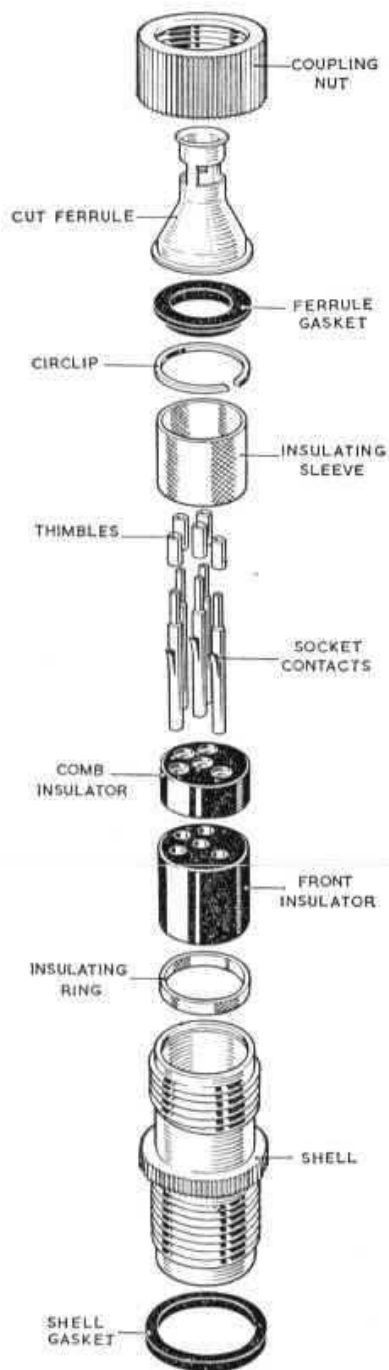

Fig. 6. Free unit (exploded) with coupling nut and cut ferrule, climatic-proof
15. Units at stage 3 (fig. 6 and 8) differed from those at stage 2 in that the shell rim and the coupling nut have straight knurls. The use of a comb insulator in this type restricts the use of the unit to
Coupling nut (Table 27, fig. 6 and 7)
Cut ferrule (round base) (Table 37 and fig. 6)